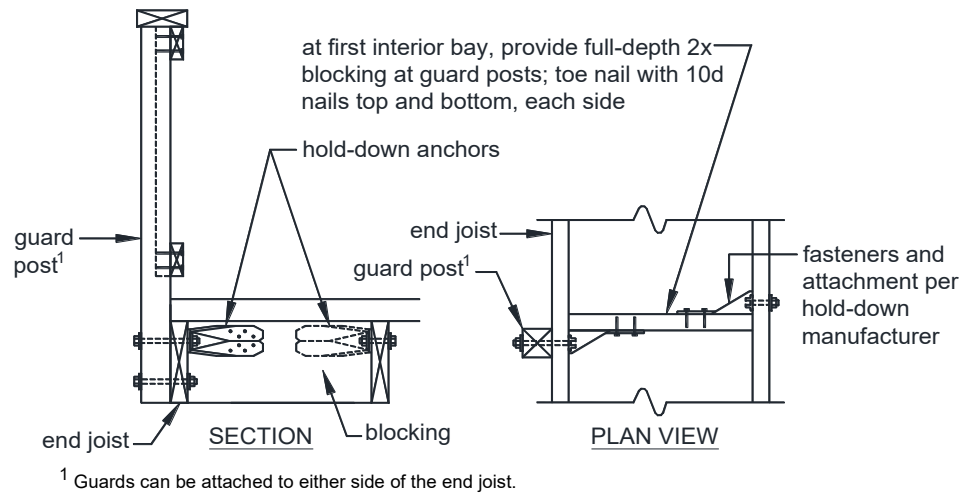
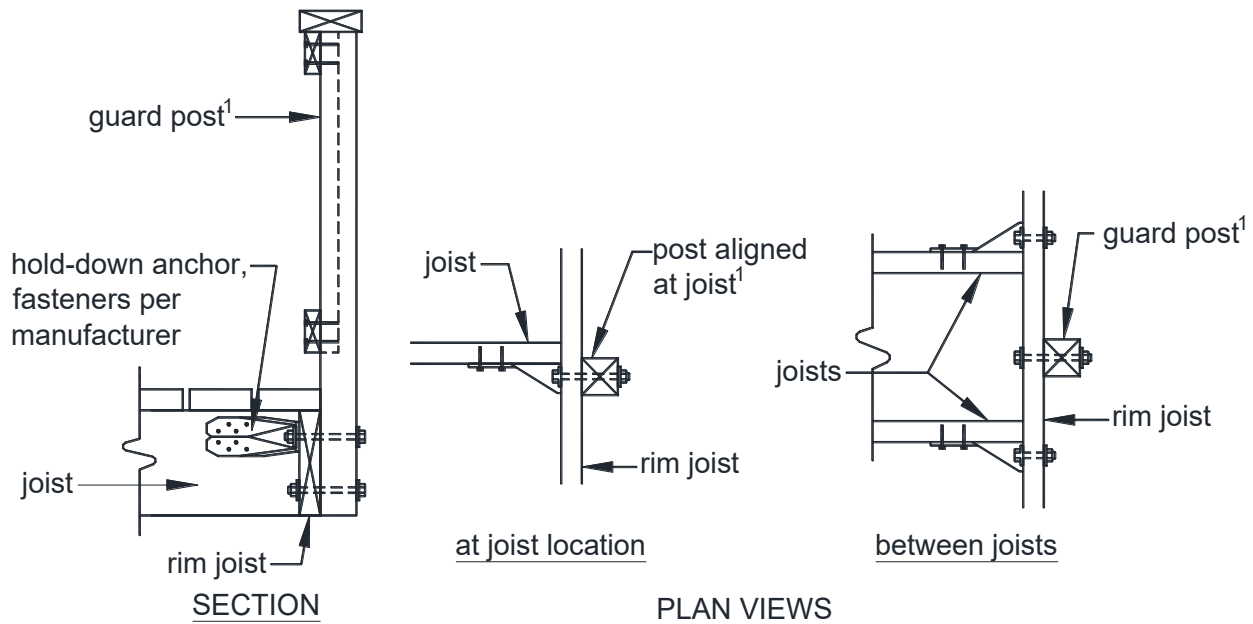

FIGURE 15: GUARD POST-TO-END JOIST
FIGURE 16: GUARD POST-TO-RIM JOIST
- Hold-down anchors, as shown in FIGURE 15 and FIGURE 16, shall be used to attach the guard post to the end joist and rim joist, respectively.